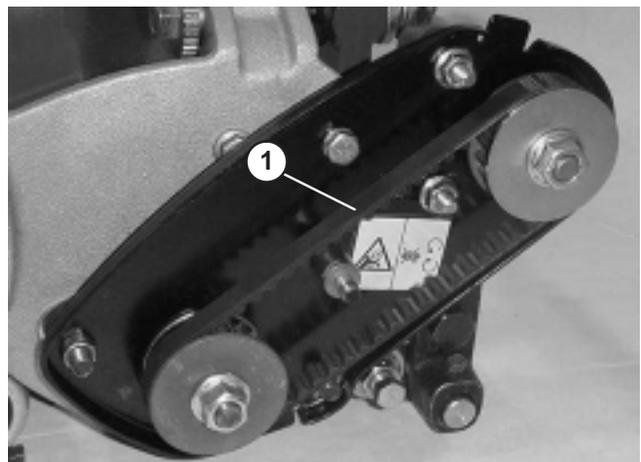

Figure 37
- Check tension by depressing belt (Fig. 37) at mid span of pulleys with 4 ± 1 lb. of force. Belt should deflect $1/4$ in. If deflection is incorrect, proceed to next step.